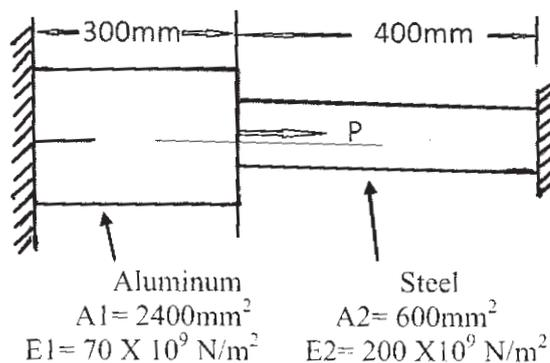

Fig. 1, Q No. 5(b)
- b) Consider the bar shown in Fig 1 is subjected to axial load $P = 200 \times 10^3 \text{N}$. Using the penalty approach for handling boundary conditions, do the following: [12]